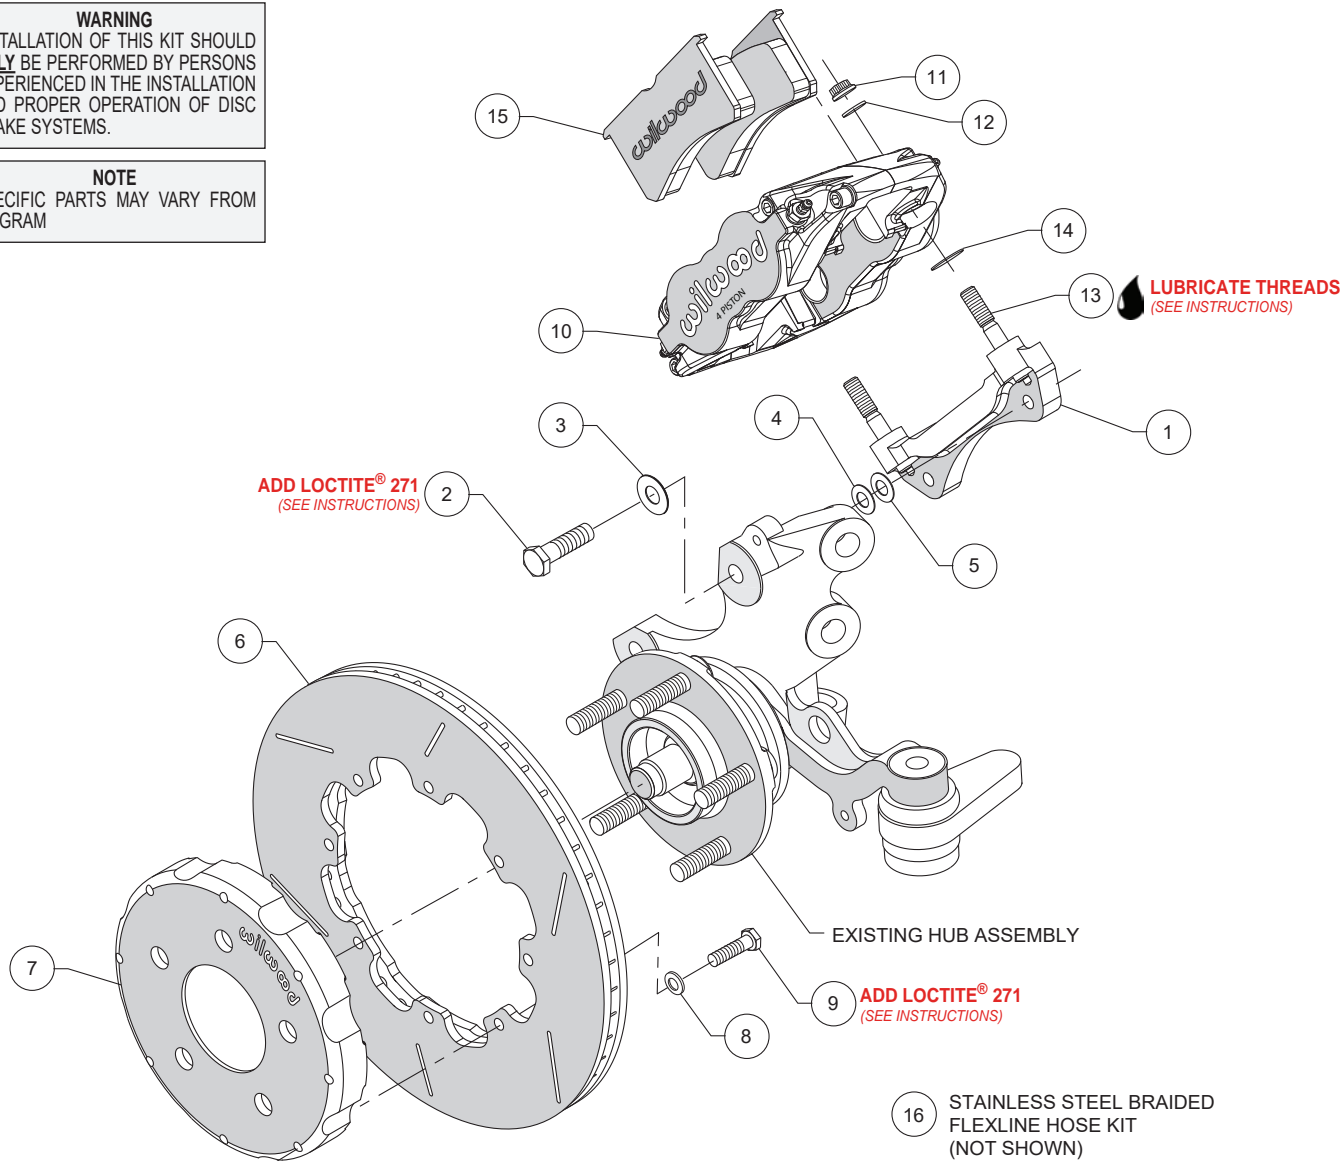
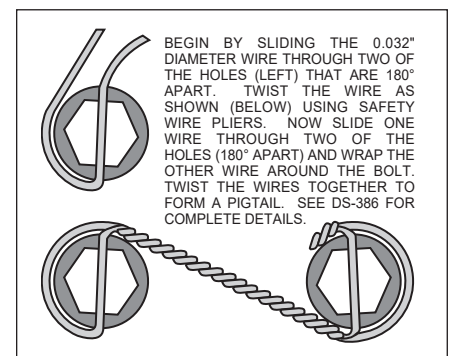

Figure 1. Typical Installation Configuration
Figure 4. Safety Wire Diagram
•The caliper mount bracket assembly (1) should be installed first with clean, dry threads on the mounting bolts. Install the bracket on the inboard side of the spindle by sliding bolt (2) through flat washer (3), and spindle mounting ear from the outboard side of the spindle. Place two shim washers (4) between the bracket (1) and the spindle (see figure 1). The bracket must tighten squarely against the inboard side of the modified caliper mount bosses on the spindle body. Inspect for interference from casting irregularities, machining ridges, burrs, etc. Later, after the caliper, pad, and rotor alignment has been checked, and any necessary shims have been put in place, the mount bolts should be coated with red *Loctite*® 271 and torqued to 65 ft-lbs.
•With the larger I.D. side of the rotor (6) facing away from the hat (7), attach the rotor (6) to the hat (7) using washers (8) and bolts (9) as shown in Figure 1. Using an alternating sequence, apply red *Loctite*® 271 to the threads and torque bolts to 25 ft-lb. For an added measure of security, the bolts may be safety wired using standard 0.032 inch diameter stainless steel safety wire as shown in Figure 4. Please refer to Wilwood's data sheet DS-386 (available at www.wilwood.com/Pdf/DataSheets/ds386.pdf) for complete safety wire installation instructions.
•Lubricate caliper mounting studs (13) and nuts (11) with lightweight oil. Install two shims (14) over each stud (13) on the radial mount bracket. Slide the caliper (10) in place over the studs and rotor and install the washer (12) and lock nut (11) to hold the caliper in place. The caliper bleed screws should be pointing up. Snug the lock nuts (11) and check that the rotor (6) is centered in the caliper (10). Add or subtract shims (4 and/or 5) as necessary between the mount bracket and the spindle to center the caliper.
•Remove the caliper center bridge pad retainer bolt, nut, and tube from the caliper. Slide the brake pads (15) into place. They should install easily without interference. Check that the outside radius of the brake pad is flush with the outside diameter of the rotor face. Add or subtract shims (14) between the caliper and mount bracket to gain the proper alignment. Reinstall the center bridge pad retainer tube, bolt, and lock nut. The locknut should be snug without play in the bolt or tube. Be cautious not to over tighten.